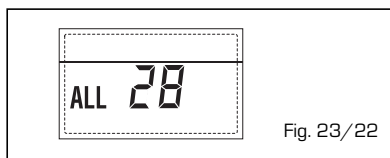

Fig. 23/22
**- ANOMALIA NUMERO SCHEDINI COLLEGATI "ALL 29" (fig. 23/23)**